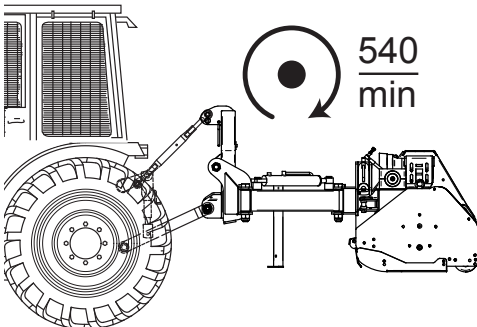

Fig. 23
- engage the PTO slowly and accelerate the tractor, avoiding exceeding the maximum limit of rotation of the PTO of 540 rpm/min (Fig. 23).